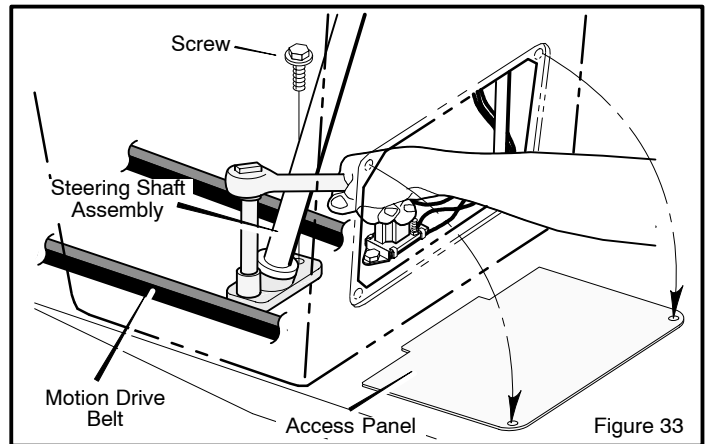

Figure 33
8. Remove the **access panel** (Figure 33).
9. Remove the two **screws** that attach the **steering shaft assembly** (Figure 33). Raise the steering wheel and **steering shaft assembly**. Pull the **motion drive belt** under the **steering shaft assembly**.
9. Attach the **steering shaft assembly** to the steering plate with two screws (Figure 33).
10. Attach the **access panel** (Figure 33).